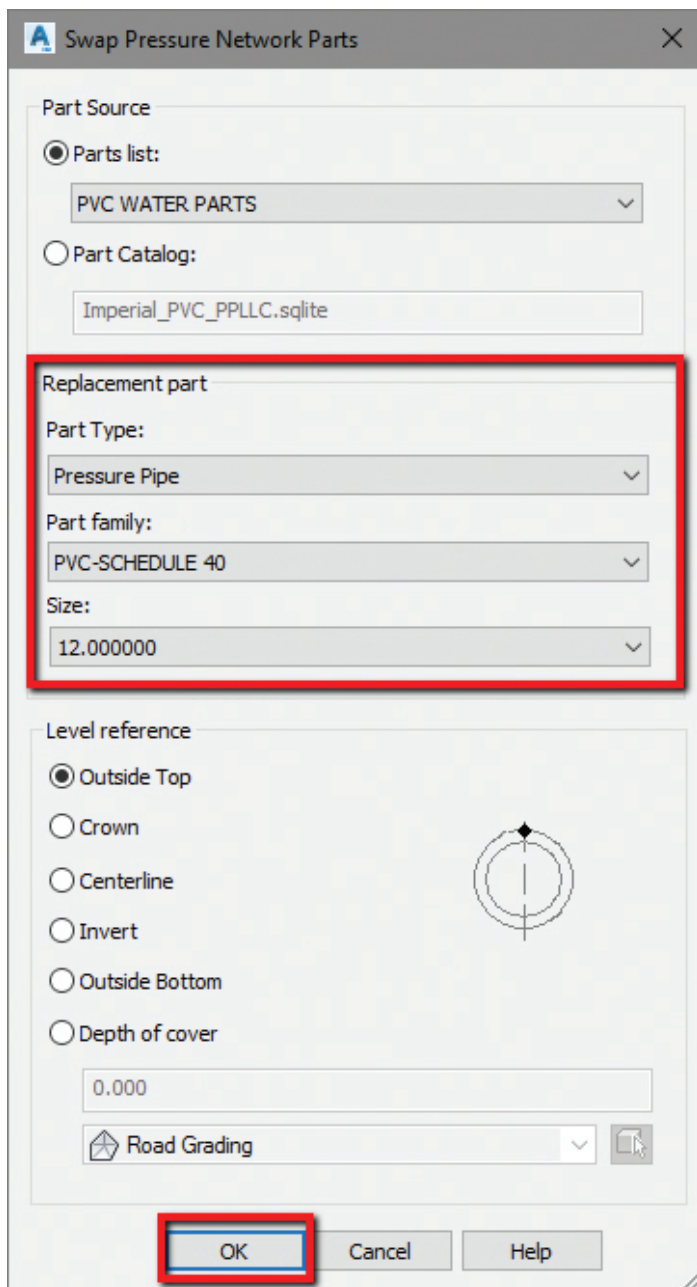

Figure 2
3. The Swap Pressure Network Parts dialog box will appear; adjust your Replacement Parts and select OK (Figure 2).